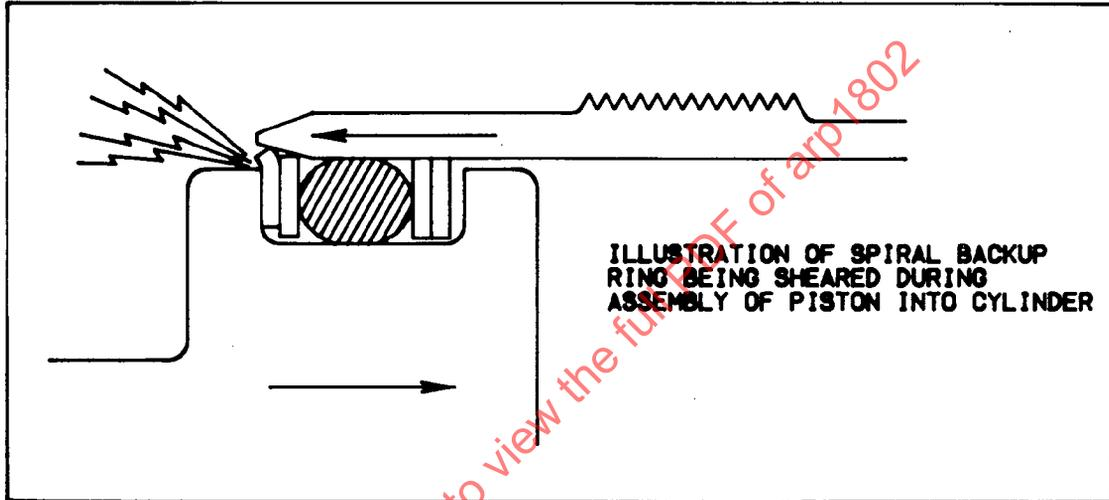

FIGURE 9
6.3.2 Care must be taken during assembly of hydraulic or pneumatic components fitted with spiral backup rings to prevent "shearing" of one end of the ring as the ring engages the rod or cylinder bore. See Figure 9.